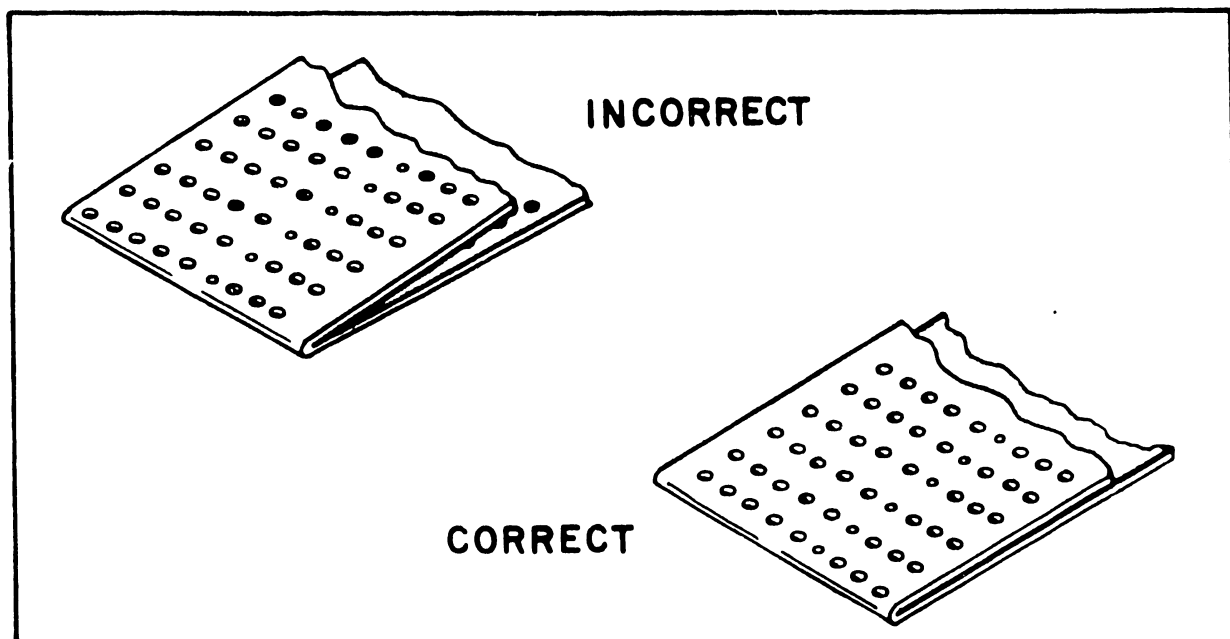

Figure 3.12 Zoning Check
2. Checking zoning with a tape gage, or as accurately as possible by punching code holes (delete code) over a section of tape. Fold the tape back on itself and line up two delete codes so that their holes accurately overlap as shown in Figure 3.12. If zoning is